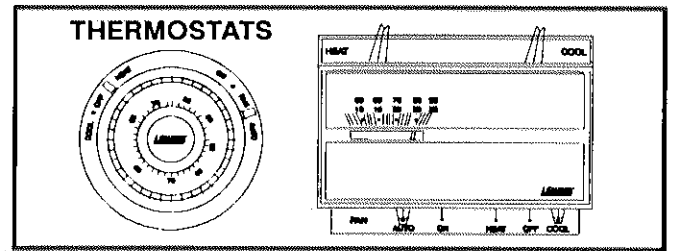

FIGURE 2
- 2– Set thermostat to lowest setting. See figure 2.